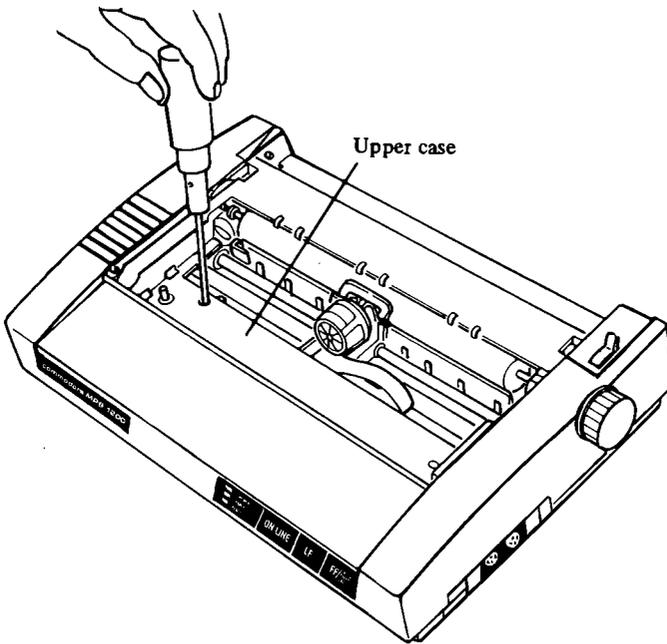

Figure A-1. Removing the upper case.
4. Remove the retaining screw that secures the upper case. It is located just above the MPS 1200 logo where the ribbon cartridge sits (see Figure A-1).